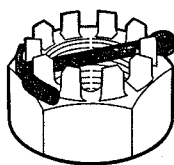

Figure 5
- Secure the castellated nut with a split pin 7x80. The split pin must be located totally within the gates of the nut and properly secured around it. See figure 5.